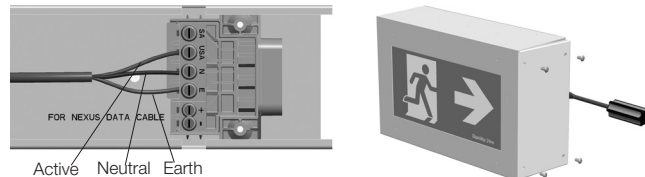

Figure 2: Mains connection and how to get access to main frame
3. Remove four (4) M6 x 1/2 torx pin screws that secure the side cover by using a torx pin driver. Then gently insert a small flat head screwdriver into the gap between the side cover and the main housing and lever the side cover out from the housing. See figure 2.
7. After securing the main housing to the wall or ceiling, run the cables through the cable hole into the bracket, ensuring that the cabling is suitably protected as it passes through the cable entry holes. Strip, connect and terminate the cables as indicated in figure 2. Ensure that any double insulation of the cable/s passes into the terminal block area so that no single insulation is exposed when the cover is in place. Be careful with multi-strand conductors that all of the strands are twisted together before inserting into the terminal block. Re-install the plastic panel over the terminal block.